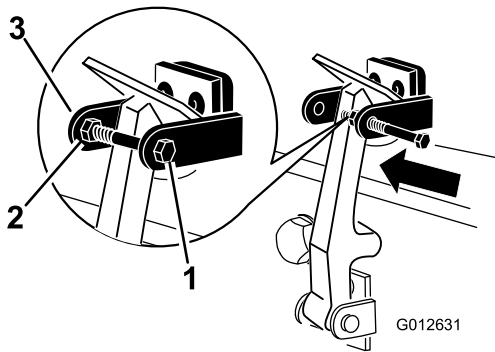

Figure 7
8. Install the bolt into the other arm of the hood-latch bracket to lock the latch in position (Figure 7). Tighten the bolt but do not tighten the nut.